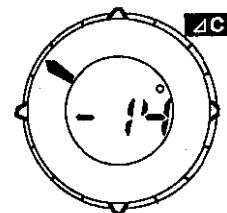

Fig. 2-13 The Example of Indication
- 5) The figure 2-13 show the example of course error - 14 degrees.